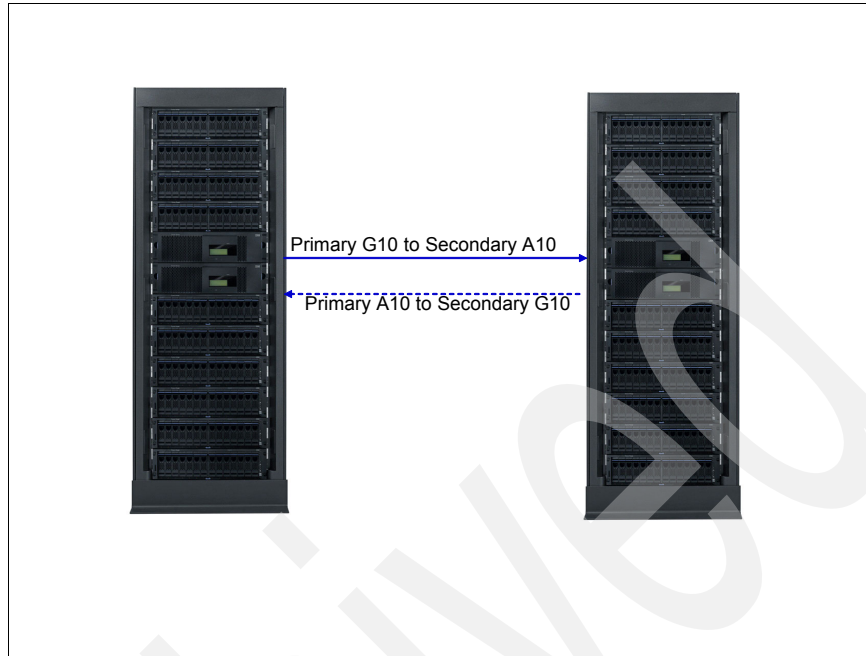

Figure 1-49 SnapVault interoperability
- ▶ Disk-to-disk backup from SnapVault primary on G model to SnapVault secondary on A model, as shown in Figure 1-49 on page 60.